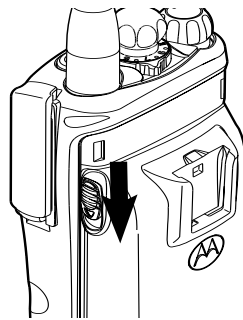
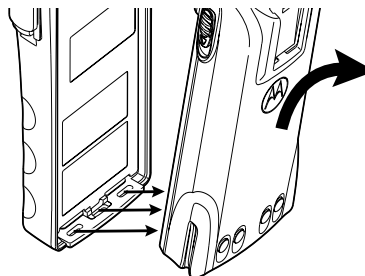

Figure 19. Step 1, Removing the Battery
Figure 20. Step 2, Removing the Battery
2. Remove the battery completely from the radio (see Figure 19 and Figure 20 on page 38).